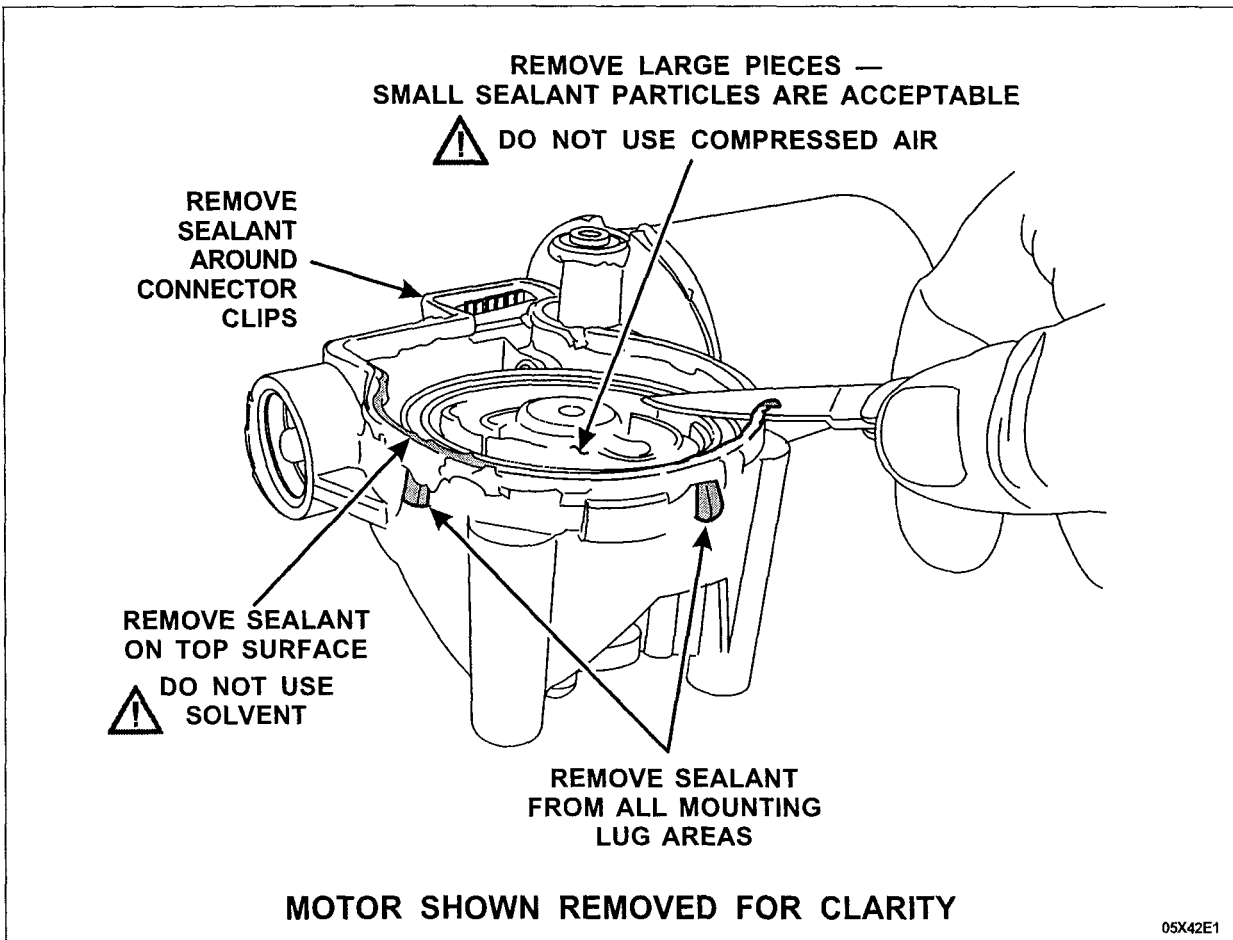

FIGURE 5
Remove the existing sealant from the top surface of the gear housing and around each of the five (5) mounting lug areas. To avoid damaging the motor, extra care must be taken when removing sealant from the area around the internal electrical connector clips. See Figure 5.